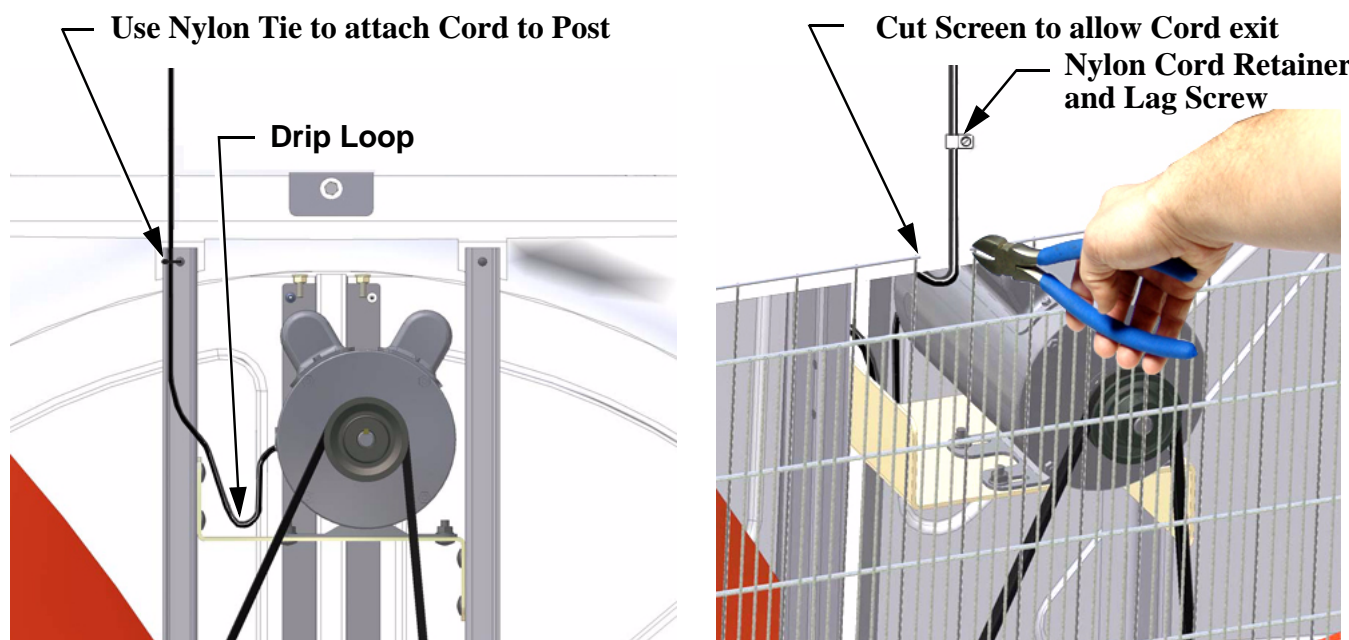

Figure 12. Wiring / Cord Routing
3. Route the motor cord (not supplied) toward the upper left corner of the Fan and attach the cord to the Motor Mount using the Cable Tie—included in the hardware package. Leave a Drip Loop so that moisture collecting on the Cord will not run down and damage the Motor (**See Figure 12**). Cut out a section of the Screen where you want the Cord to exit the Fan, so that the Screen can be removed without the Cord getting in the way (**Figure 12**). Use the Nylon Cord Retainer and Lag Screw provided to secure the Cord to the Wall outside of the Fan. (**Figure 12**)